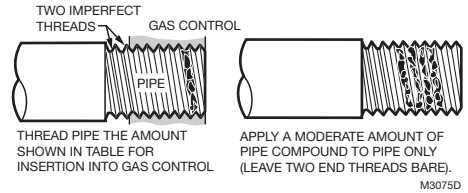

Fig. 3. Use moderate amount of pipe compound
4. Apply a moderate amount of good quality pipe compound (do not use Teflon tape) to pipe only, leaving two end threads bare. On LP installations, use compound resistant to LP gas. Refer to Fig. 3.